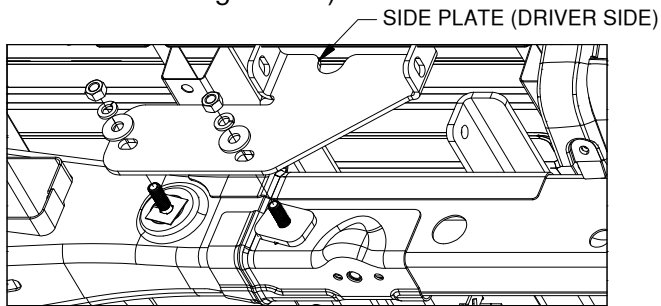

Figure C4: View of driver side wheel well.
3. **Install side plates.** Each side plate (driver and passenger side) will install over the carriage bolts previously placed into the frame. Slowly guide the side plate over the carriage bolts and between the cross members. Attach each side plate with two 1/2" washers, 1/2" lock washers, and 1/2" finish nuts. See Figure C4. Do not fully tighten at this time. (Hardware should be hand tightened.)